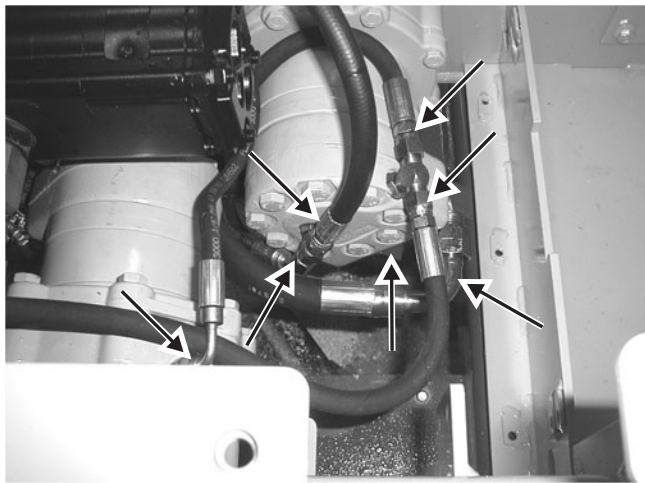

Fig. 7-21 Disconnect all hydraulic hoses from drive motor to be removed.
6. **BEFORE** disconnecting hydraulic hoses and tubes from drive motor, mark each hose and port where it attaches to drive motor (hoses can then be correctly reattached during installation). Disconnect all hydraulic hoses on drive motor. **Fig. 7-21**